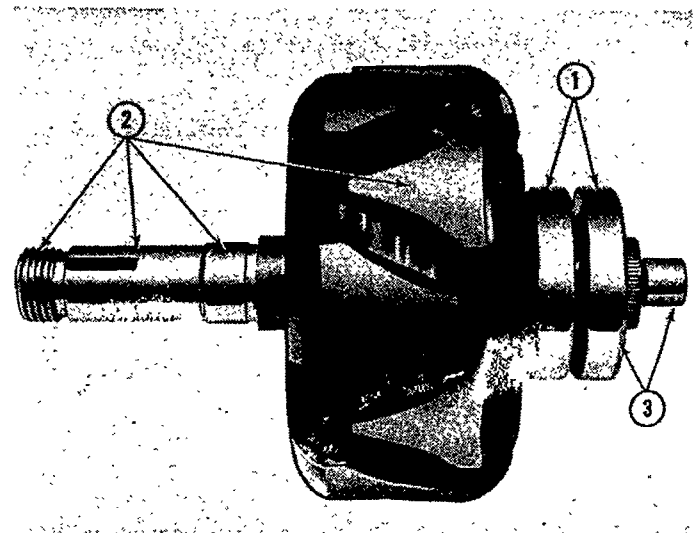

Figure 58
12. Check the rotor assembly, Figure 58, for electrical properties as follows: